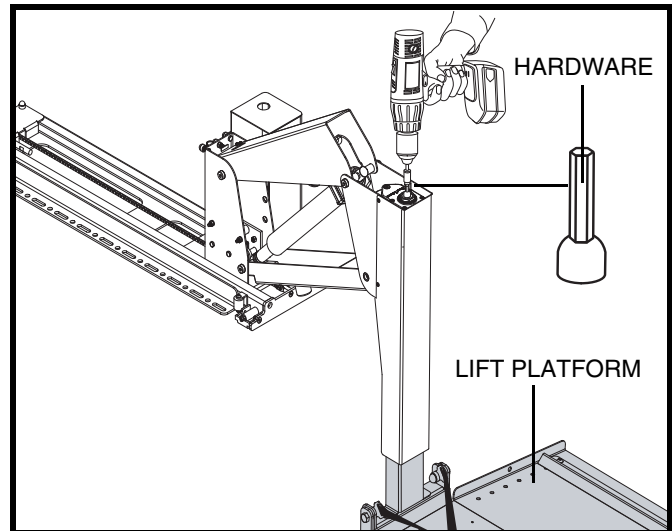
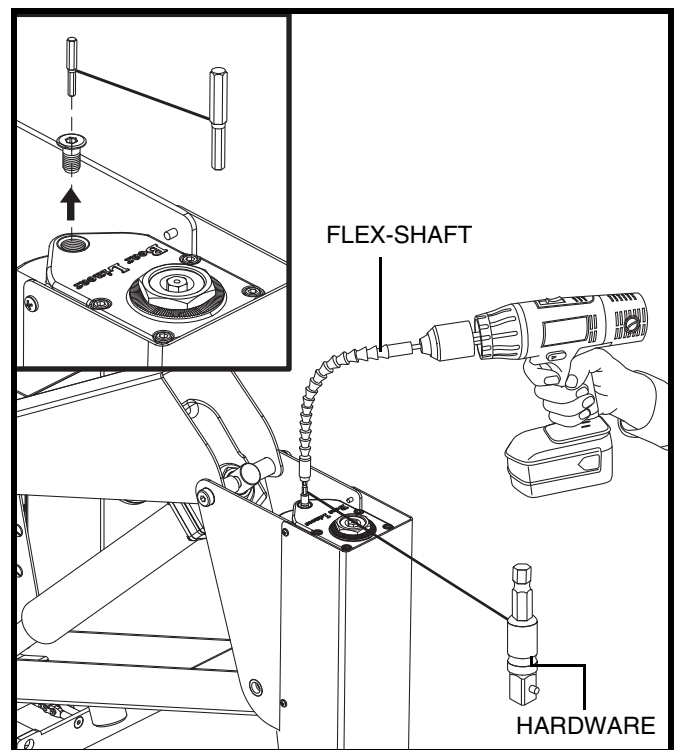

Figure 10. Raise Or Lower The Platform. DO NOT Use The Flex-Shaft For This Operation (Backpacker MV ONLY)
Figure 10A. Raise Or Lower The Platform (Remove Screw To Expose The Adjustment Opening) Backpacker MV ONLY
The Backpacker MV lift platform can be raised/lowered from two different adjustment points located at the top of the lift. The larger (front) adjustment opening (see figure 10) requires more energy but less revolutions to raise/lower the platform, while the smaller (rear) adjustment opening (see figure 10A) needs less energy but more revolutions.
NOTE: Some MV lifts have only a single adjustment opening on the motor. See figure 10 B.
PROHIBITED! DO NOT use the flex-shaft when manually raising or lowering the lift platform while using the method illustrated in figure 10. Attach the needed hardware directly to the drill.
1. Secure the appropriate end of the flex-shaft to a drill, and depending on which part of the lift you want to move, attach the appropriate hardware to the other end of the flex-shaft. See figures 10, 10A, 10B, 11, and 12.